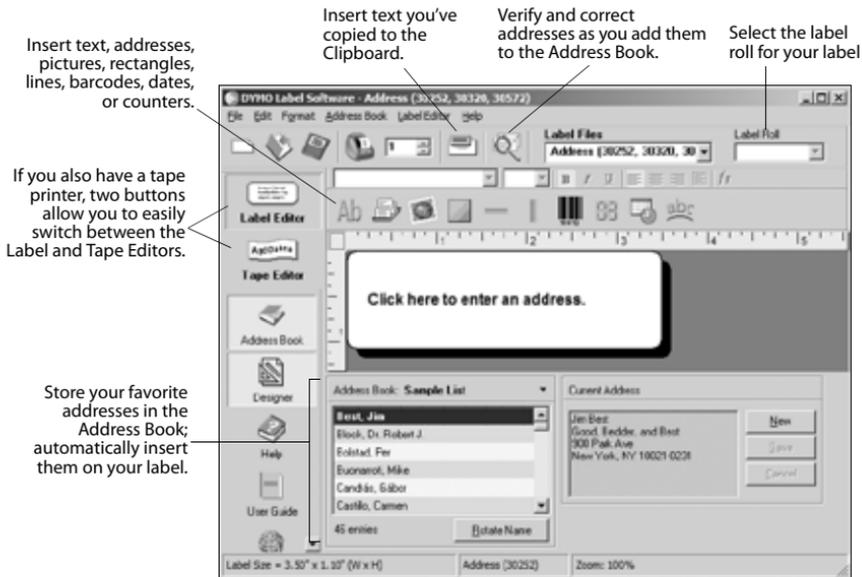

Figure 11
- 4 Choose **Left Roll** or **Right Roll** from the **Label Roll** drop-down list to select the side of the printer where the address labels are loaded. See Figure 11.
Figure 11 highlights some of the features available in DYMO Label Software.